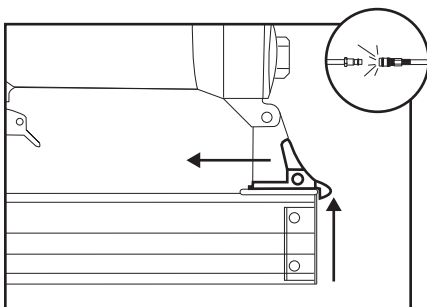

Figure 5. Pressing the magazine latch.
2. Press the magazine latch toward the front of the nailer, as shown in **Figure 5**.